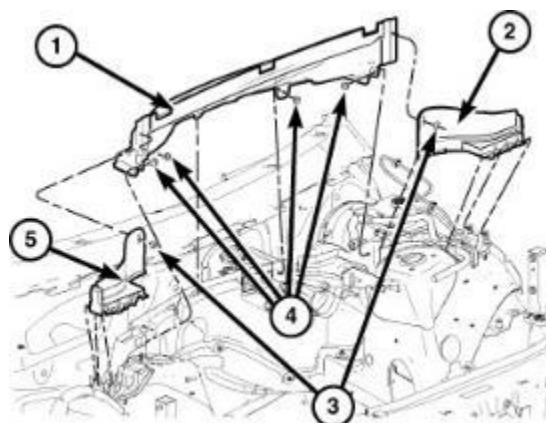

Figure 40 - Cowl Extension and Side Extensions
9. Remove the cowl extension (1) and the side extensions (2), (5) (In Service Library refer to 23 - Body/Exterior/SILENCER, Cowl Extension/Removal) (Figure 40).